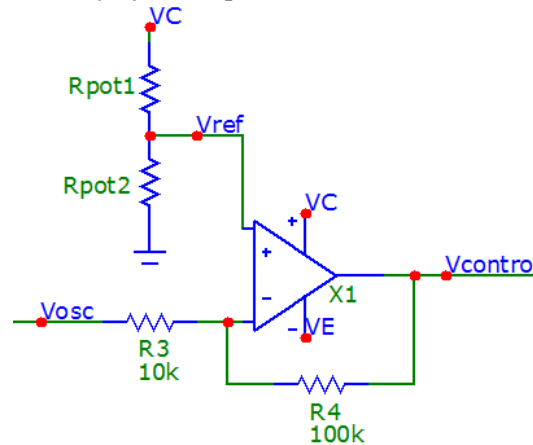

Figure 3. Signal conditioning circuit.
The output of the ring oscillator from Lab 3 is not a 50% duty cycle square wave, but more of a distorted sinusoidal signal. The ring oscillator signal needs to be converted to a 50% duty cycle square wave. This can be done using a Schmitt trigger circuit, as discussed in ECE 214, or an amplifier circuit, such as that shown in figure 3, where the op-amp is driven deep into saturation. Since the MCP6001 op-amp is almost rail-to-rail, amplifying the input signal converts the sinusoidal signal to a square wave. A gain for this non-inverting amplifier of 10V/V should be sufficient.
2. **Signal Conditioning Circuit Design:** Design the signal conditioning circuit based on either a Schmitt trigger circuit or the circuit shown in figure 3. Choose R_3 and R_4 to obtain a gain between 10V/V and 20V/V at 20 kHz.